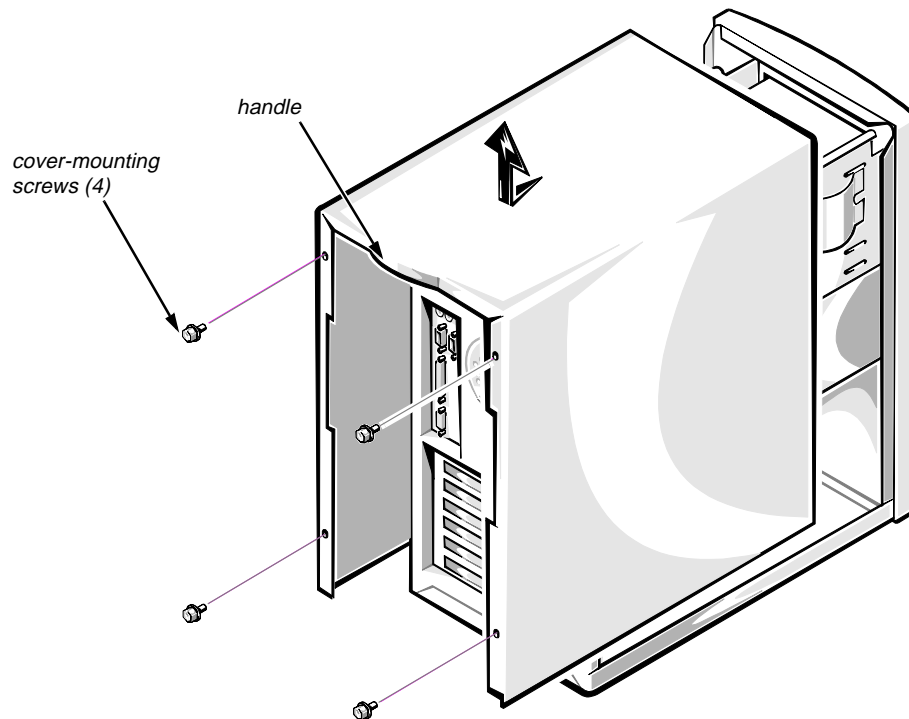

Figure 4-1. Computer Cover Removal
2. Slide the cover backward about an inch; then grasp the front of the cover and the handle at the back of the cover, and lift the cover straight up off the chassis (Figure 4-1).